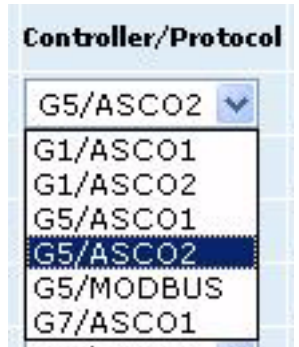

Figure 19: Controller/Protocol manual selection
- Click **Enable**, enter the **ATS Name**, and the **IP Address**. On the **Controller/ Protocol** list, **Controller Address**, and **PM Address**, select the appropriate settings. See Figures 19, 20, 21.
If *G5/Modbus* protocol is selected (Figure 19), the PM Address should not be the same as the address set in the Group 5 controller.
- Perform step 4 on page 8 (Figures 19, 20, 21). All ATSs must be of the same series (same controller).